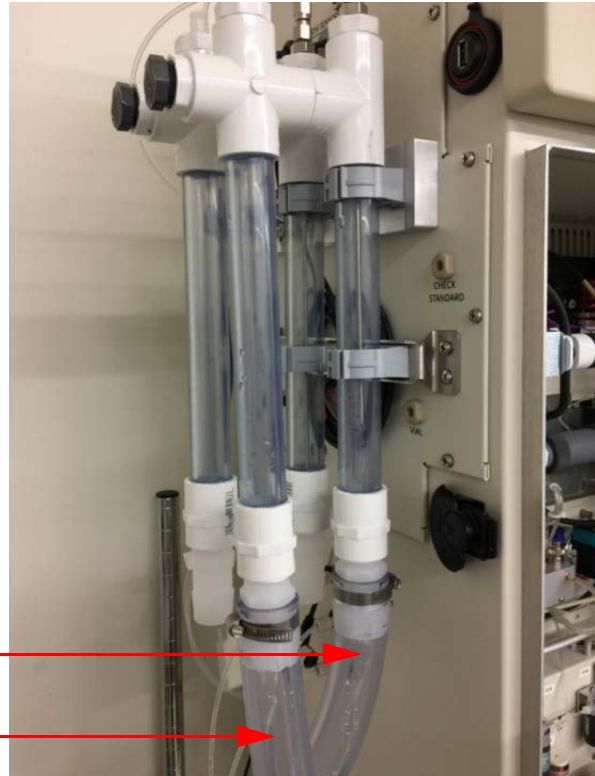

Figure 24: Velocity Mode — Installation
11. Connect the pipe farthest from the instrument (the pipe *without* the internal sipper tube) to the sample source (2). (See Figure 24: Velocity Mode — Installation on page 95.)
12. Connect the pipe nearest the instrument (the tube *with* the internal sipper tube (8)) to the waste outlet (3). The barbed fitting nearest the Analyzer should be connected to a gravity
drain (3). This will insure that no back pressure (< 7 kPa, 1 psig) is created within the Analyzer. (See Figure 24: Velocity Mode — Installation on page 95.)